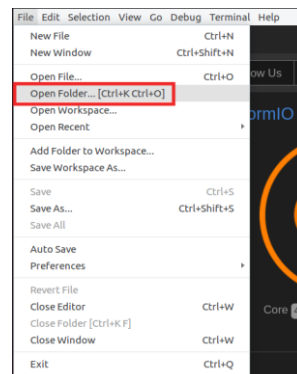

Figure 98. Open Folder
4. On the top menu bar, click on *File* → *Open Folder* (see Figure 98) and browse into directory *[RVfpgaEL2NexysVideoNODDRPath]/examples/examples_PlatformIO*